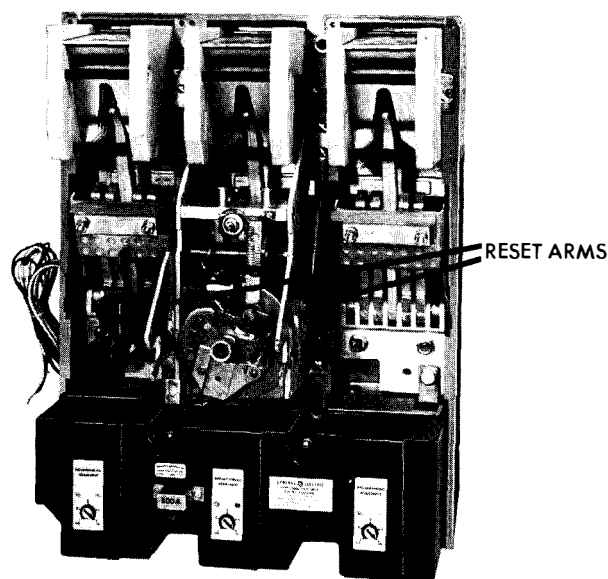

Fig. 3A. Breaker base and mechanism
- a. Slide the inner cover and motor-power unit assembly onto the breaker base and mechanism. Ensure correct alignment of the handle shafts (cam shaft and extension shaft) and that the reset arms engage the grooves in the rollers shown in Fig. 3A.